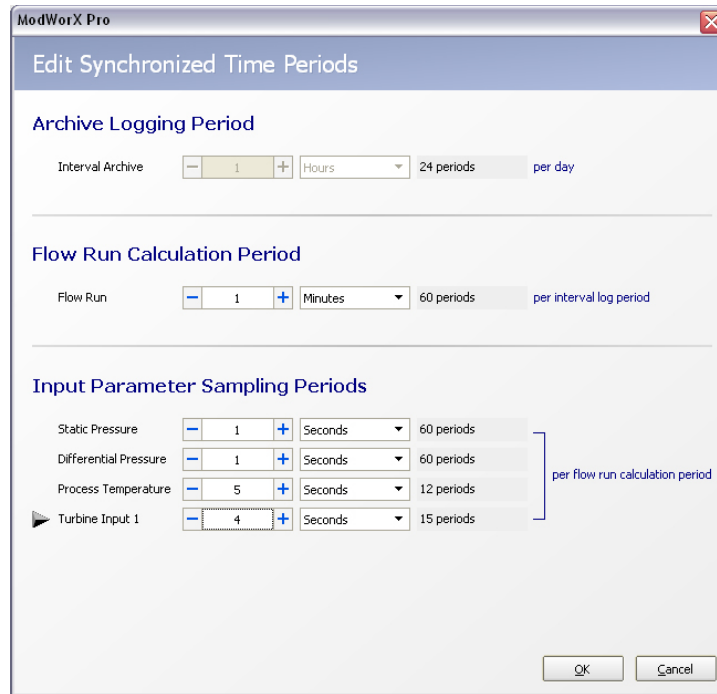

Figure 5.5
- To change the sampling period, click **Edit**. The Edit Synchronized Time Periods dialog will appear, and an arrow will point to Turbine Input (Figure 5.5, page 72).